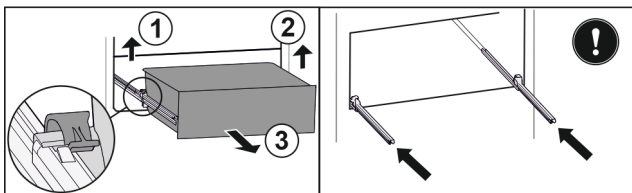

Fig. 162
- ▶ Lift left clamp and simultaneously pull drawer forwards on the left. Fig. 162 (1)
- ▶ Lift right clamp and simultaneously pull drawer forwards on the right. Fig. 162 (2)
- ▶ Remove drawer to the front. Fig. 162 (3)